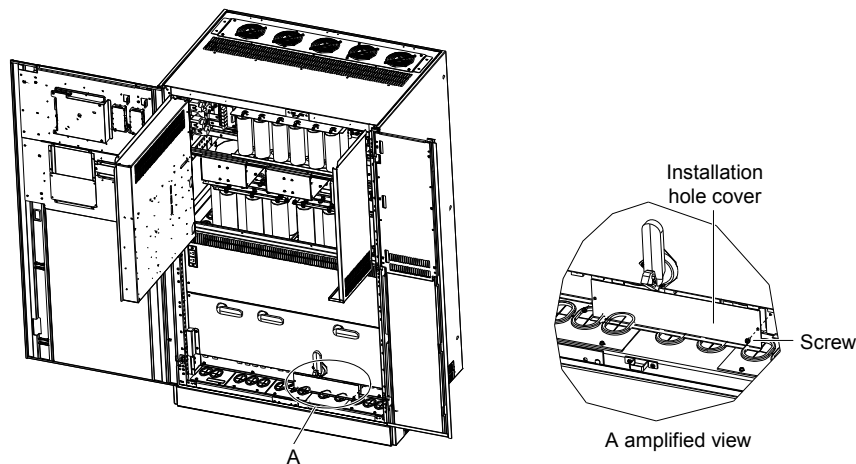

Figure 1 Removing the installation hole cover
1. Open the front door of the cabinet, remove the lower switch baffle plate and the installation hole cover, as shown in Figure 1. Retain the screws.